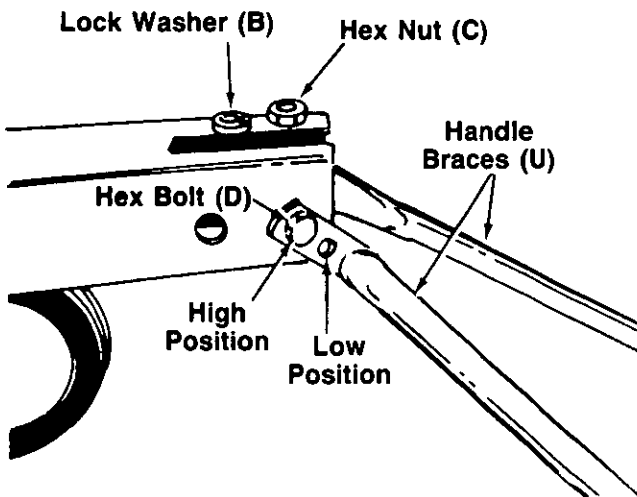

FIGURE 9.
10. Attach the right and left hand braces (U) to the tailpiece. The braces have two holes to provide handle height adjustment. Select hole for either high or low position. Secure to tailpiece with hex bolts (D), lock washers (B) and hex nuts (C), finger tight only (do not tighten). See figure 9.